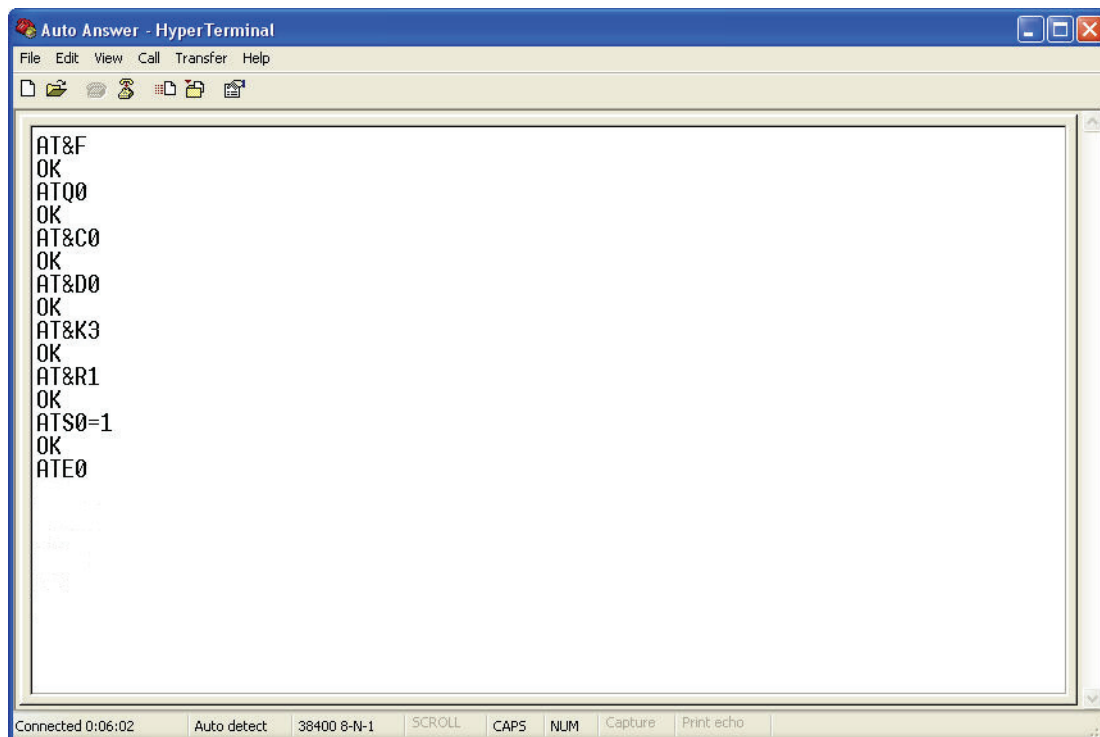

Figure 2-5. Programming a US Robotics Modem To Auto Answer for iPort
4. Issue the following commands (Table 2-3) one at a time. The modem responds OK (Figure 2-5).
3. Issue the following commands shown in Table 2-4 one at a time. The modem responds OK. See Figure 2-5 for similar type of display.
3. Issue the following commands (Table 2-5) one at a time. The modem responds OK. See Figure 2-5 for similar type of display.